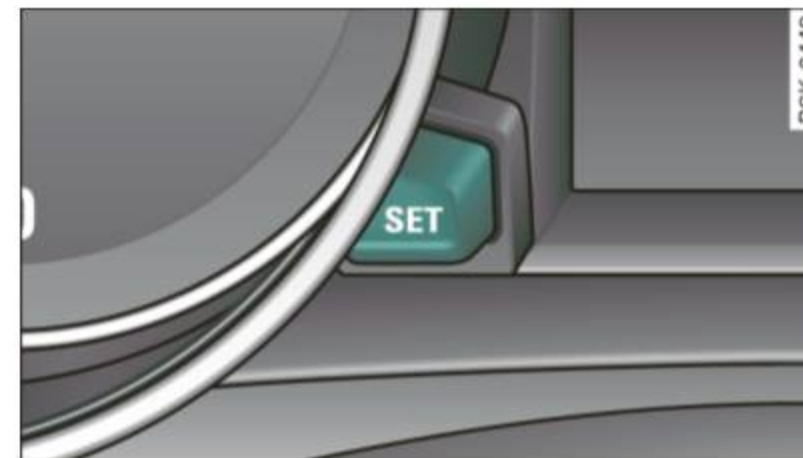

Fig. 3 SET button in the instrument cluster
The display appears for approximately 30 seconds when you press the **SET** button ⇒ *page 13*, fig. 3 with the ignition off.
- When the ignition is turned off, the odometer reading and the digital clock with date display can be switched on for about 30 seconds by pressing the **SET** button ⇒ *page 13*, fig. 3. ■
- The odometer can be turned on for approximately 30 seconds with the ignition off by pressing the **SET** button ⇒ page 13, fig. 3. ■